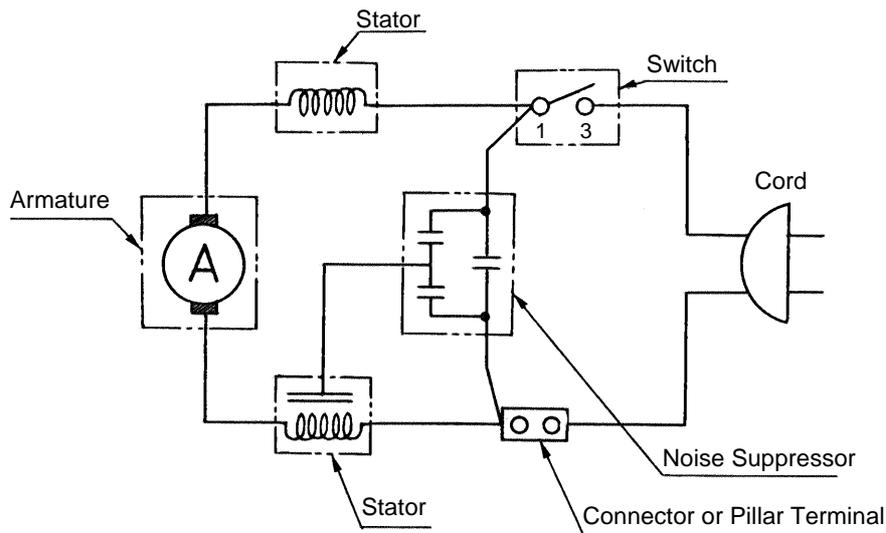

Fig. 9
On models equipped with a Noise Suppressor ⑤ (see Fig. 9), carefully confirm appropriate terminal numbers on the Single Pole Switch ⑯ when connecting wiring. On the No. 1 terminal side, connect the Internal Wire ⑳ (grey-colored, with terminal) from the Stator ㉒, and the Internal Wire (with terminal) from the Noise Suppressor ⑤. On the No.3 terminal side, connect the Internal Wire (with terminal) from the Cord ⑧. Ensure that the Internal Wires are properly attached, and that the terminal screws are firmly tightened. Then connect the other Internal Wires of the Stator ㉒, Noise Suppressor ⑤, and Cord ⑧ with the Connector ⑦ (or Pillar Terminal ⑥).